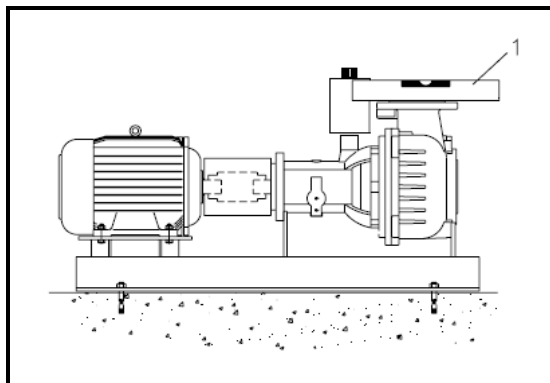

Fig. 7.2
- Flanges straight horizontal and vertical see fig. 7.2 pos 1.